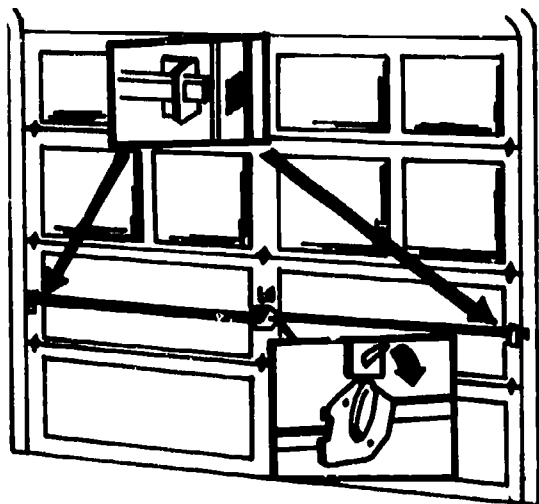

Figure 17. Overhead Lift Door
**Overhead Lift Door.** Overhead lift doors are easily operated once the lock is released (see Figure 17). Generally, they are locked with sliding bars that must be broken or sprung to release the door. Overhead lift doors may be forced by prying upward at the bottom of the door with a crow bar, claw tool, or other good prying tool. Once the lock bar is